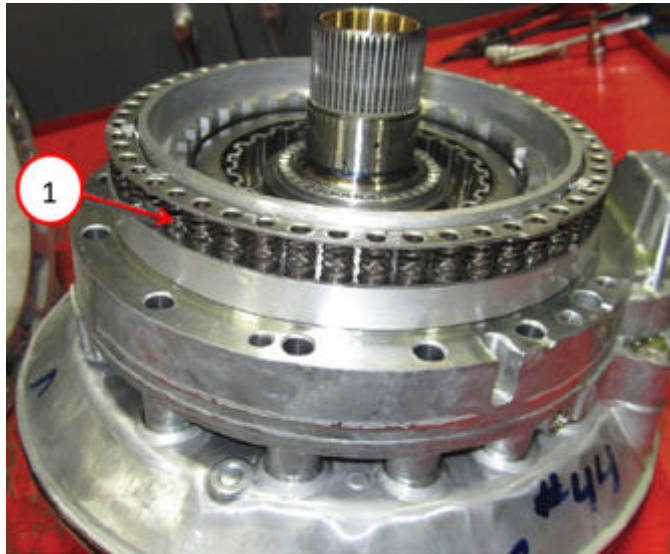

**Fig. 36**
53. Install the park pawl lock rod onto the fork Fig. 36.